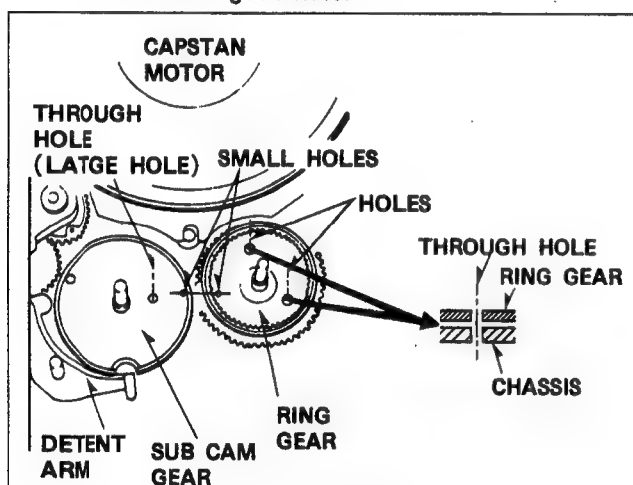

Figure M40
1. Install the Ring Gear so that the two holes on the Ring Gear align with the two holes on the chassis as shown in Figure M40.
Also the small hole (located just outside of large hole) on Sub Cam Gear should align with the hole on Ring Gear as shown in Figure M40.
4. Install the Detent Arm and make sure Detent Arm seats perfectly in detent of Sub Cam Gear as shown in Figure M40.